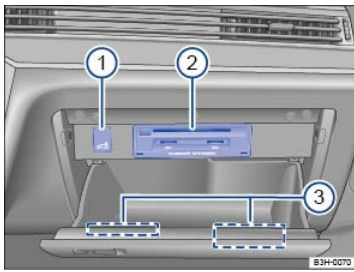

Fig. 138 Inside the glove compartment.
Key to ⇒ Fig. 138 :
Vehicles equipped with an Infotainment system may have a CD or DVD player, SD card readers, or other Infotainment system accessories ⇒ Fig. 138② in the glove compartment. See ,Chapter Infotainment System for further information.